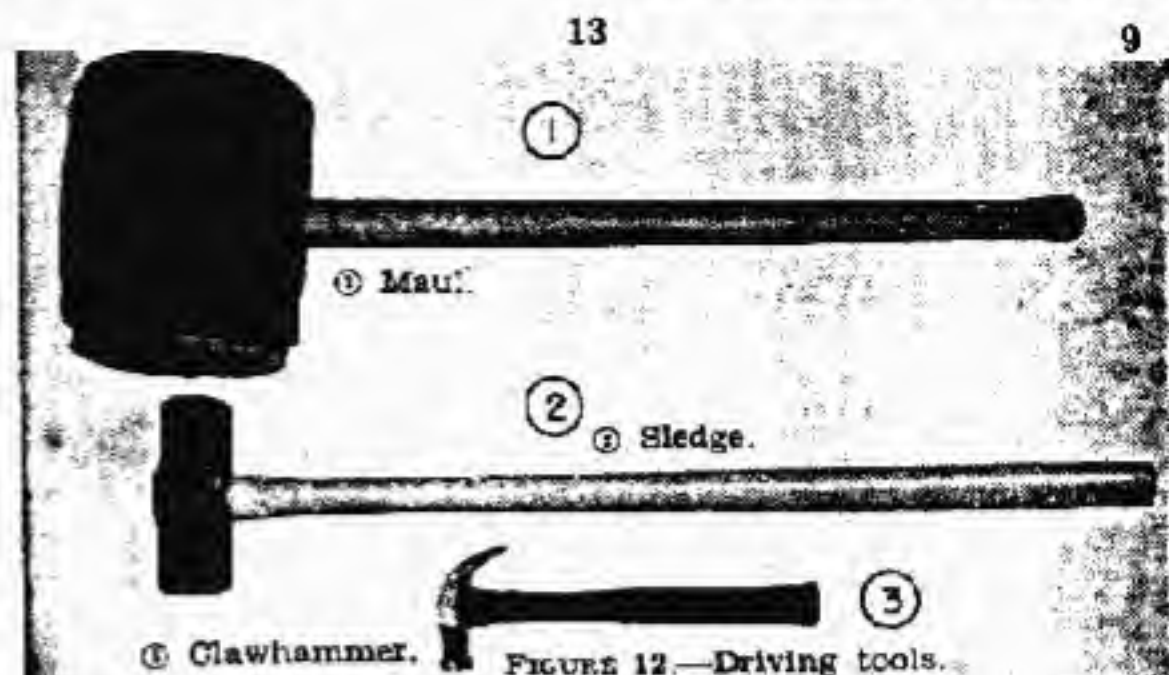

FIGURE 12.—Driving tools.
h. Sledge (see fig. 12).—The sledge is used for heavy driving, rock-breaking, striking rock drills, and for shop and general construction work. It should be swung like a pick. A full stroke gives best results.